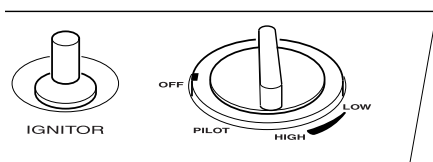

Figure 17 - Control Knob In The OFF Position
3. Turn control knob clockwise ↻ to the OFF position (see Figure 17).
4. Wait five (5) minutes to clear out any gas. Smell for gas around heater and near floor. If you smell gas, **STOP!** Follow "B" in the safety information in column 1. If you don't smell gas, go to next step.
5. Slightly depress and turn control knob counterclockwise ↻ to the PILOT position. Press in control knob for five (5) seconds.